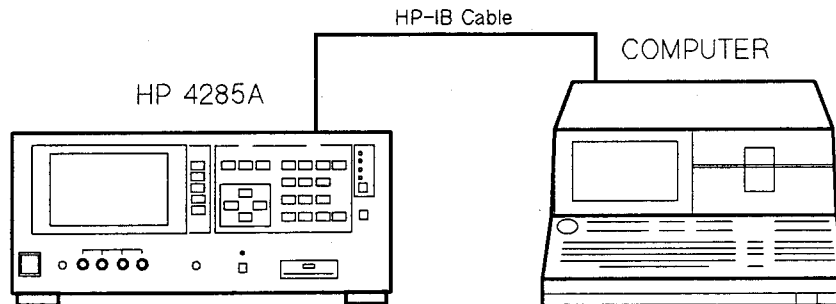

Figure 4-12. Faulty Board Isolation Program Setup
1. Connect the equipment as shown in Figure 4-12.